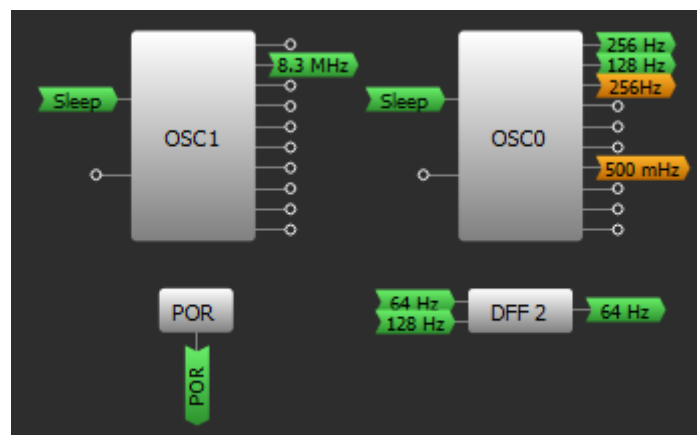

Figure 8 Oscillators Configuration
- Figure 8 Oscillators Configuration6
The CNT1 counts 30 s of Motion Sensor output. When the Sensor output is LOW more than 30 s – HV OUT CTRL and Oscillators are powered down with a HIGH Sleep signal (see Figure 8).